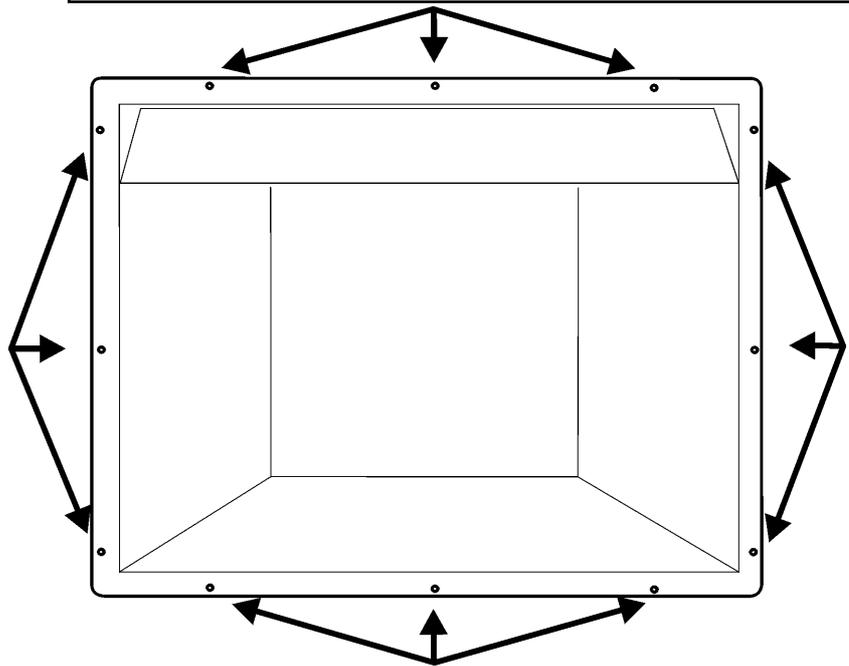

Figure 4. Front fixing
3. Mark the fireplace front through the fixing holes in the outer flanges of the chamber box. See figure 4.